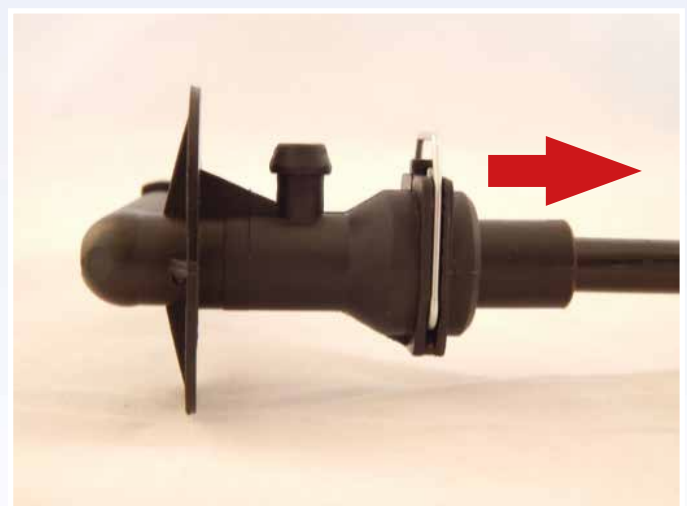

Figure 2
3. Slide the clutch tube in the direction of the arrow (Figure 2) by approximately 5mm and release the retaining clip. This will allow clutch fluid to flow from the air bleeder. **Do not fully extract the tube.**